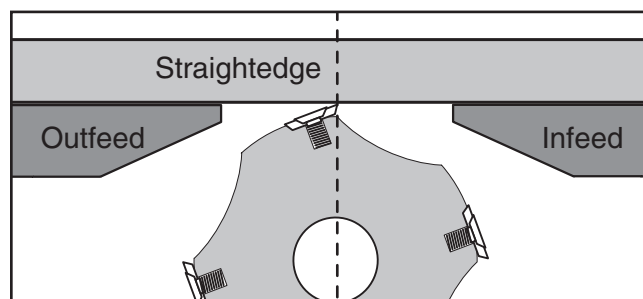

Figure 47. Infeed table even with outfeed table.
4. Adjust infeed table until even with outfeed table, as shown in **Figure 47**.